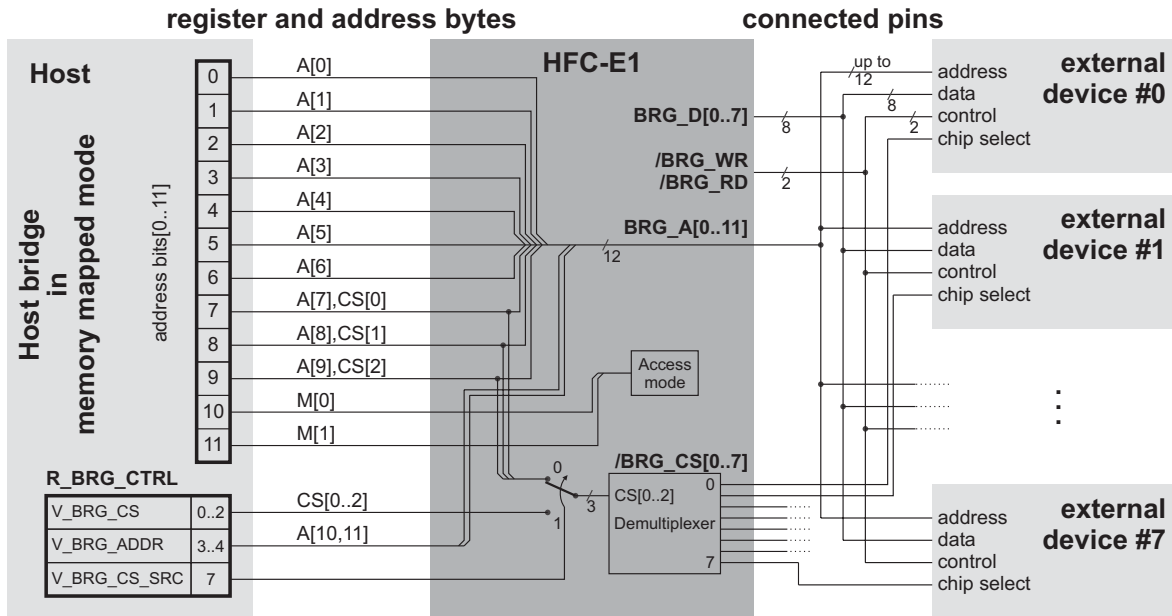

Figure 11.3: Host bridge structure in memory mapped mode
In memory mapped mode the control register `R_BRG_CTRL` can be used to perform read and write accesses with a large address space. External devices with up to 10 address lines do not require this register. If `R_BRG_CTRL` is not used, the exact number of available address lines depends on the number of external devices. An overview of this functionality is given in Figure 11.3.
1. If the external devices have not more than 7 address lines, the register `R_BRG_CTRL` is not necessary for bridge accesses. The bridge operation can be performed with 12 address bits as shown in Figure 11.3. Up to 8 external devices can be connected to the HFC-E1.